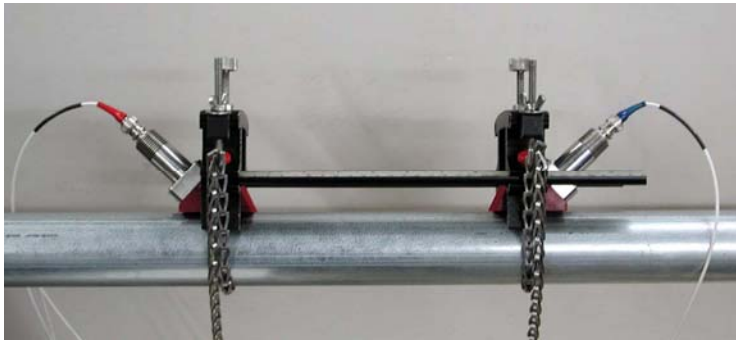

Figure 13: Transducers installed on pipe in a 2 traverse setup
31. Enter *Number of Traverses*. The simplest physical installation is the Reflect or 2 Traverse (V) setup (figure 13). In a two traverse installation the transducers are installed parallel to each other on the pipe. The signal is sent from one transducer through the liquid, bounces off the backside of the pipe then is received by the other transducer. Select 2 Traverse and press the [ENTER] button.